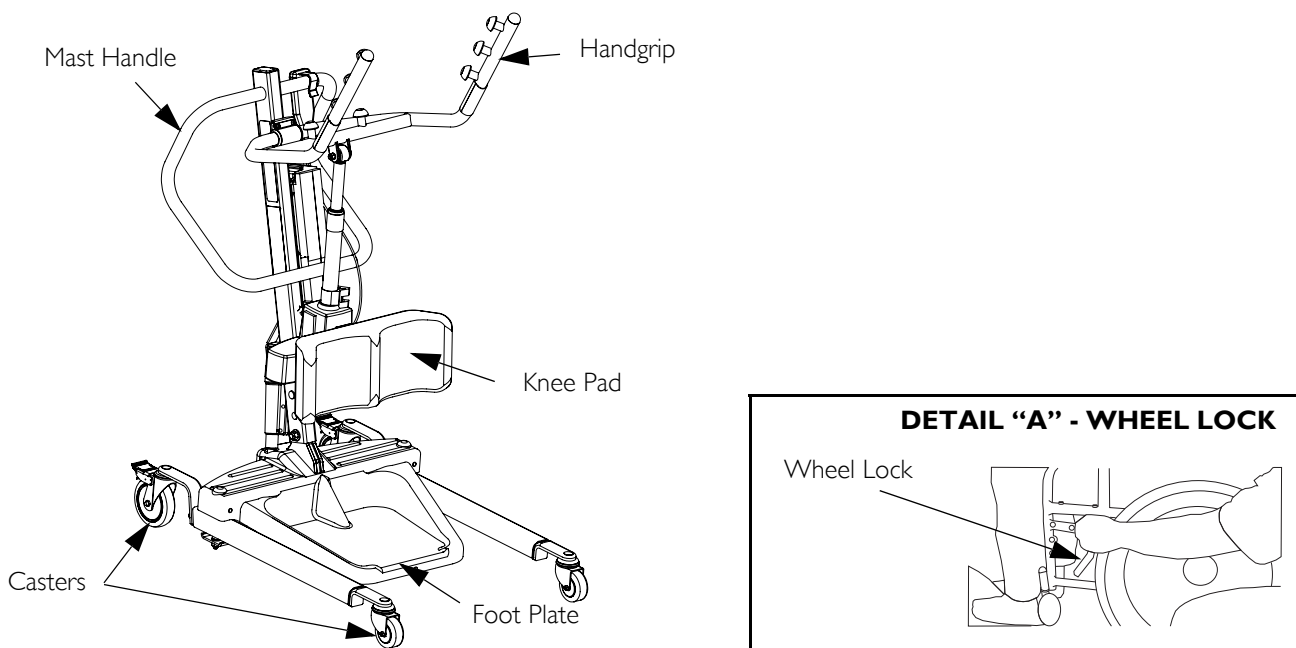

FIGURE 4.2 Lifting the Patient
NOTE: For this procedure, refer to FIGURE 4.2 on page 17.
1. Instruct the patient to hold onto the hand grips on both sides of the stand up lift (Detail "A" of FIGURE 4.2).
4. If transferring from a wheelchair, lock the wheel locks on the wheelchair (Detail "B" of FIGURE 4.2).